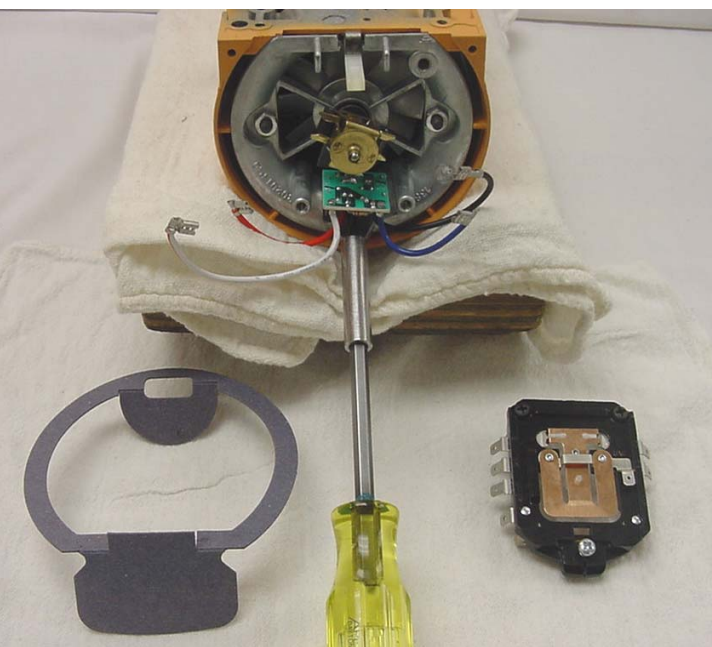

Fig. 19 Removal of the phase control (Triac) from the bearing bracket.
B. The phase control can now be disassembled from the bearing bracket, if necessary, by unscrewing the #4-40 x 1/4" pan head screw (Figs. 19 & 20).